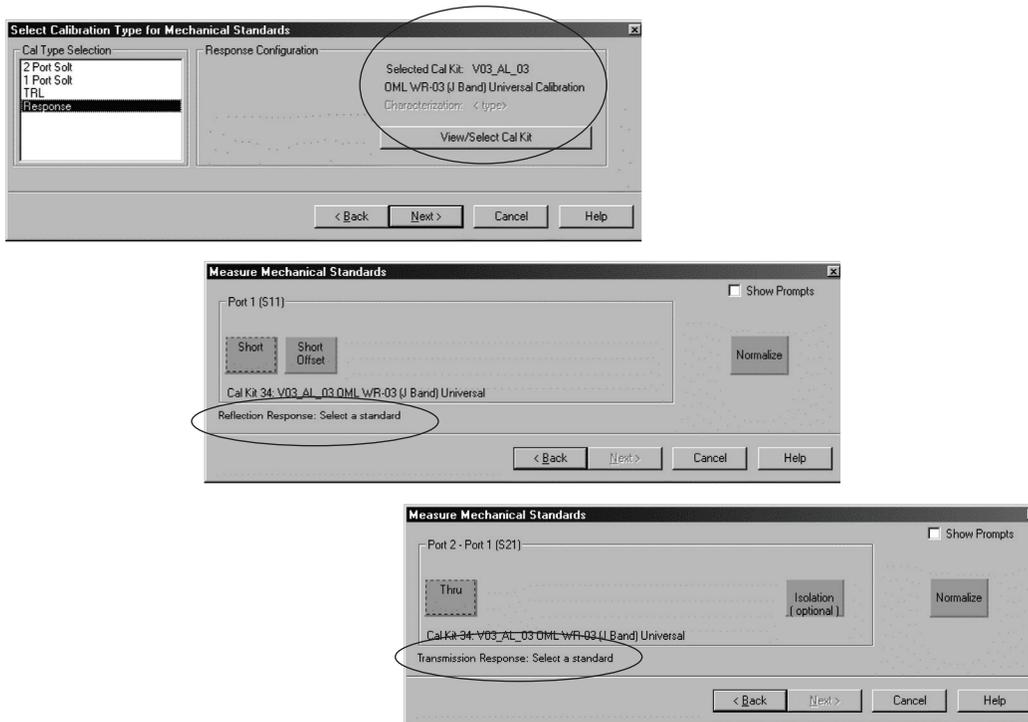

Figure 43. Response calibration and associated standard selection for Reflection Response and Transmission Response.
- This returns to the previous page, and the Cal Kit information has been updated (Figure 43, top). Make sure Response is highlighted on the left. (If not, click on it once.) Click Next> to start the Response calibration.
Your Response calibration selection will be different depending on your active trace. If the active trace is S11, then you will see the standard selection for Reflection Response, as those shown in Figure 43 middle. If the active trace is S21, then the standard selection are those for Transmission Response, as those shown in Figure 43 bottom.